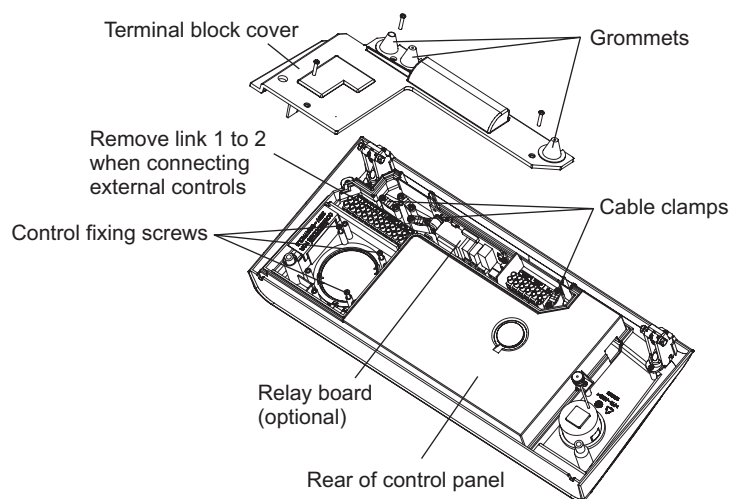

Fig. 4.16
4.11 FIT ALPHA CONTROLS (standard 240 V clock option) - Fig. 4.16